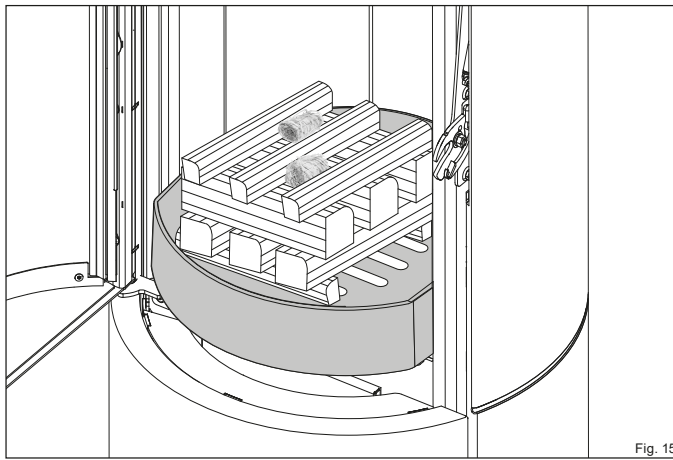

Fig. 15
- ▶ Place the logs in the middle of the grate in the firebox (Fig. 15):
- ▶ place the first 2 (2) at the front and back end of the grate opening, perpendicular to the firebox glass
- ▶ place the next 3 (4) on top of the first two pieces, parallel to the firebox glass
- ▶ the next 3 (1) across
- ▶ place the last 3 (2) lengthwise on top of this
- ▶ the kindling (6) in the middle between the top logs